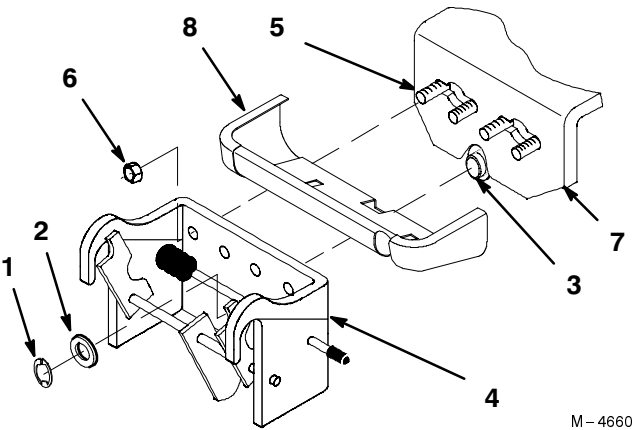

Figure 1
1. Remove the E-ring and all washers from the front axle pivot pin (Fig. 1). Remove muffler shield.
2. Install (4) 3/8 x 1" carriage bolts into the keyhole slots in the axle bracket. (Fig. 1).
3. Install the muffler shield and place the front hitch onto the tractor, securing it with (4) 3/8" locknuts (Fig. 1).
4. Reinstall enough washers to fill the space between hitch and E-ring groove. Install E-ring (Fig. 1).